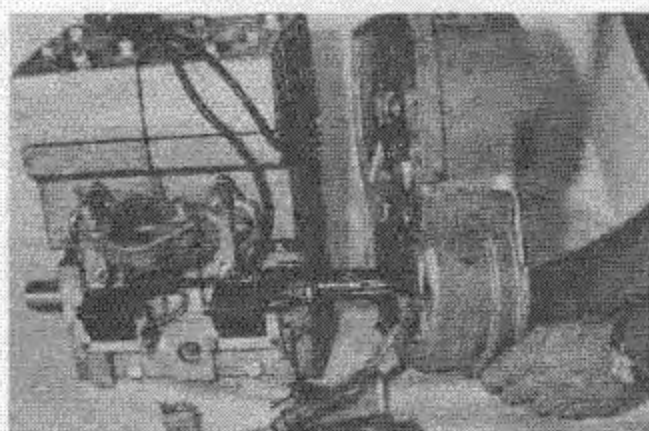

Fig. 12 — Removing Blower Housing
7. Remove screws securing blower fan housing to engine and remove housing. See Fig. 12.